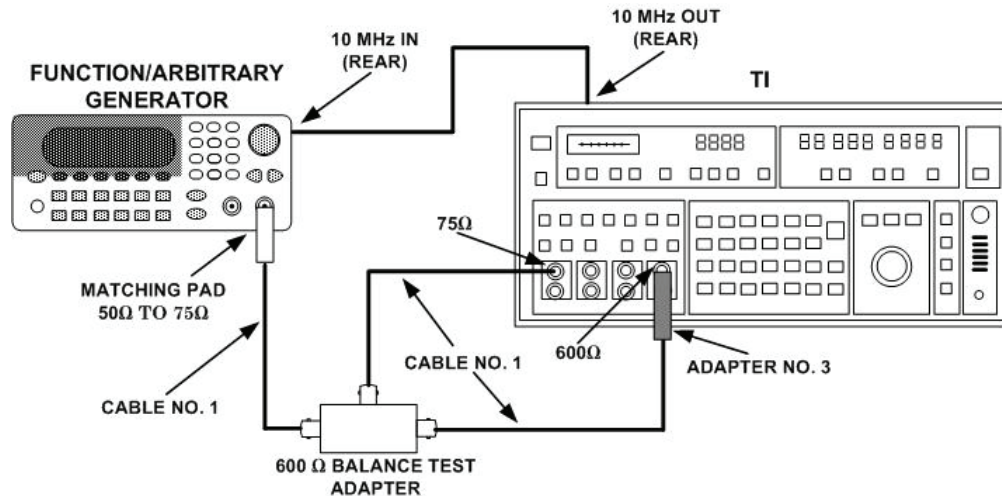

Figure 3. Balance test 600 Ω - equipment setup.
(1) Connect equipment as shown in figure 3.